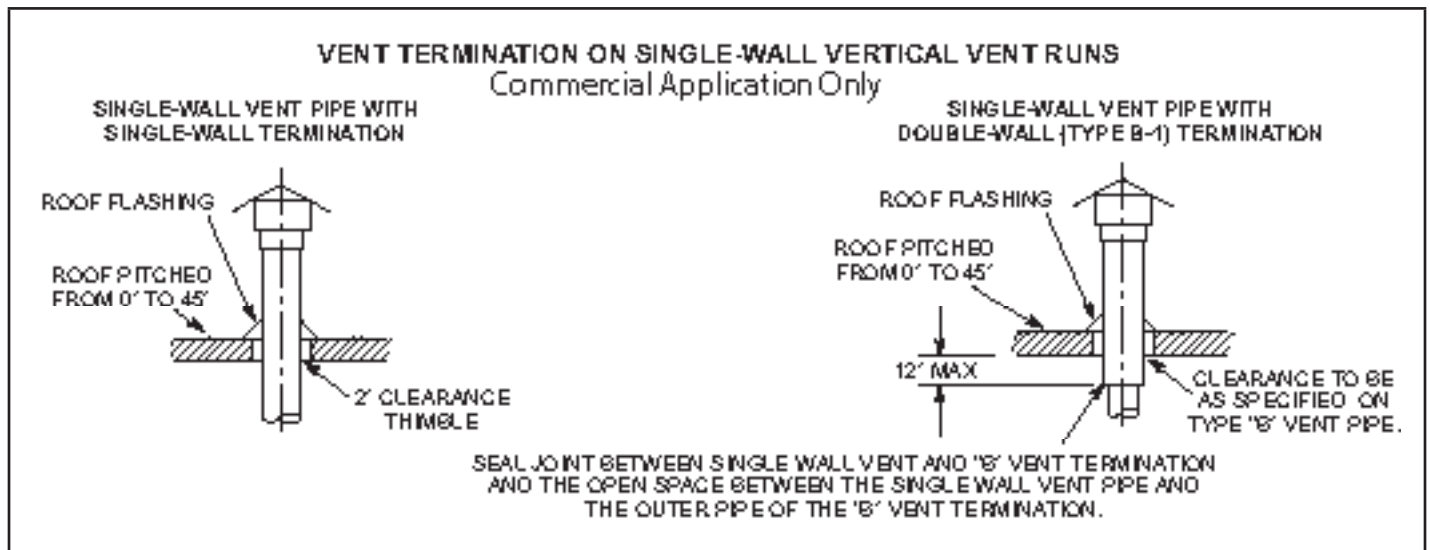

FIGURE 4
- 1 - These unit heaters are to be used with NFPA- or ANSI-approved chimneys or U.L.-listed type B-1 gas vents, or listed chimney lining systems for gas venting where applicable, as well as the modifications and limitations listed in figure 4. Seal single-wall vent material according to **General Recommendations and Requirements** section.